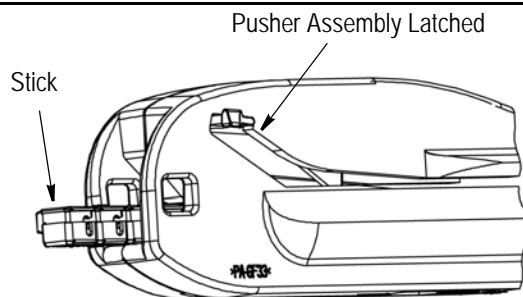

Figure 2
1. Retract and latch the pusher assembly. Load a stick, orienting the parts to the keyed track in the applicator. See Figure 2.